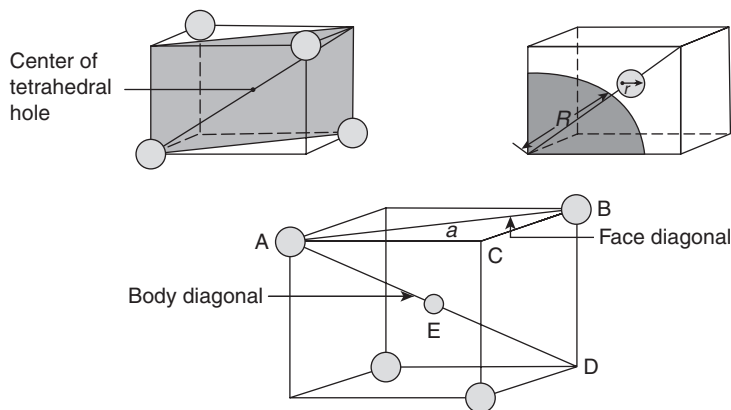

Figure 18 Representation of tetrahedral void.
1. **Tetrahedral void:** For the convenience of calculation, if the spheres are assumed to occupy the alternate corners of a cube, then the tetrahedral void would lie on the body diagonal of this cube, just touching the spheres on the opposite corners as shown in Figure 18.